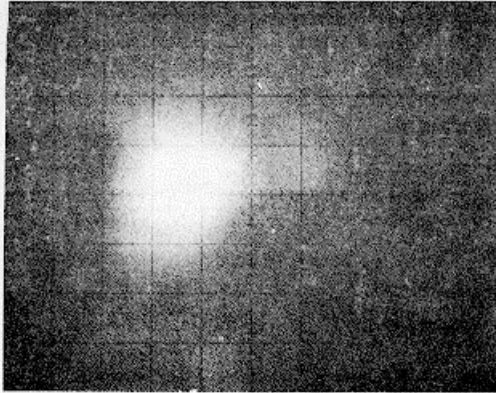

Figure 3-7. Fade positive after 2 to 4 minutes in STD mode.
- g. Fade positive. Appears as random green areas on a dark background in MAX PERSISTENCE mode, figure 3-7.
- h. Background illumination. A green cloud of illumination visible on the CRT screen, figure 3-7.